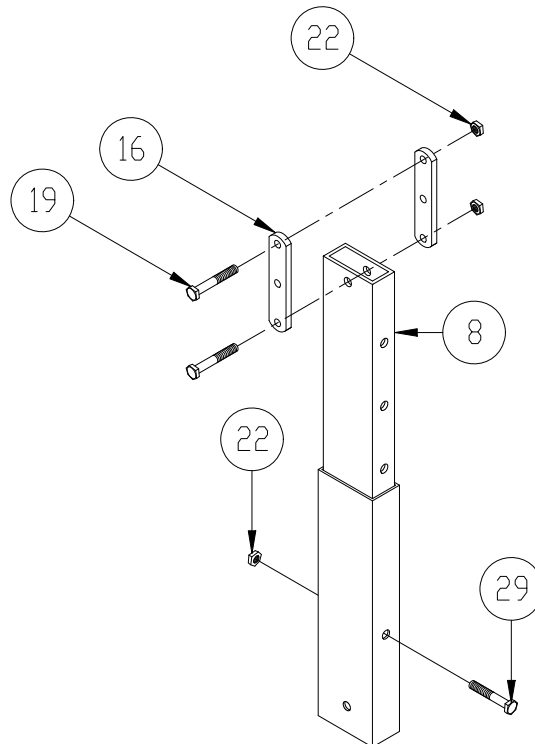

Figure 2-1.
1. Refer to **Figure 2-1**. Loosely attach 2 three-hole plates (16) to the top hole of each canopy extension leg (8) with the hardware shown. Insert the opposite end of each canopy extension leg into top of each vertical leg. Adjust canopy extension leg to a position that is most suitable for your boat lift installation and fasten in place. Note; the winch mounting hardware is also used to secure the canopy extension leg (refer to lift manual for winch leg assembly).